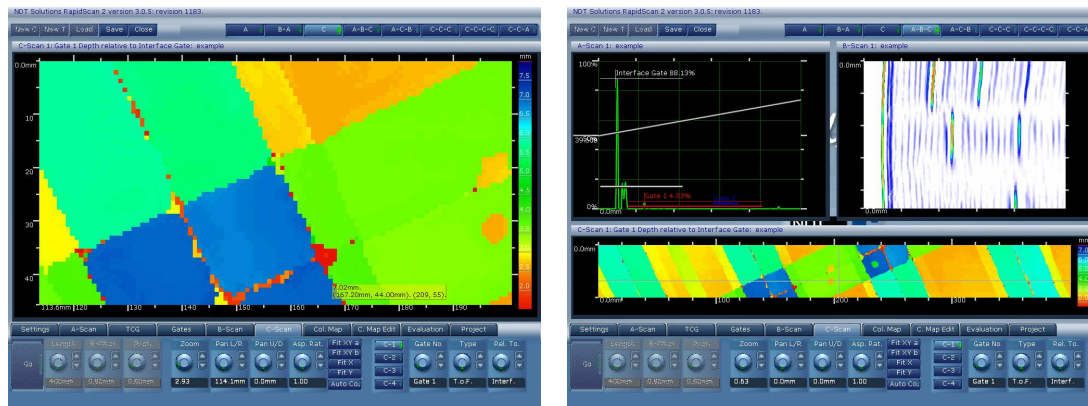

Figure 21: C View and A-B-C View
- **C** A large C-scan view (Figure 21)
- **A-B-C** A medium-sized A-scan, B-scan and C-scan view (Figure 21)